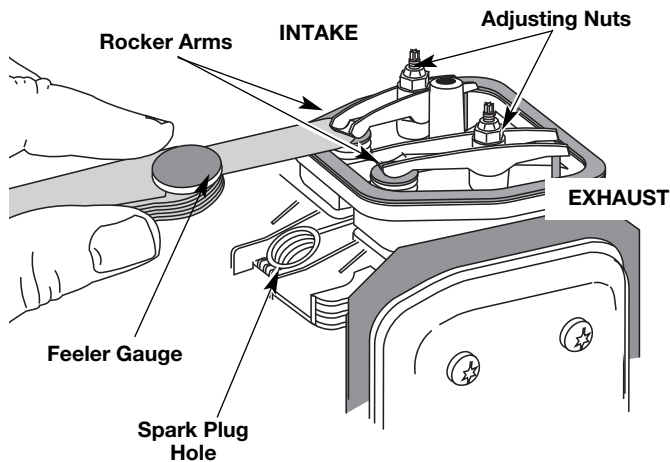

Fig. 53
- The piston is at the top of its travel while looking in the spark plug hole (Fig. 53)
7. Slide the feeler gauge between the rocker arm and the valve return spring. Measure the clearance between the valve stem and rocker arm (Fig. 53). Measure both the intake and exhaust valves.
The recommended clearance for both intake and exhaust is .003 – .006 in. (.076 – 0.152 mm). Use a standard automotive .005 in. (0.127 mm) feeler gauge. The feeler gauge should slide between the rocker arm and valve stem with a slight amount of resistance, without binding. See Figures 53 and 54.
- a. Turn the adjusting nut using a 5/16 inch (8 mm) wrench or nut driver (Fig. 53).